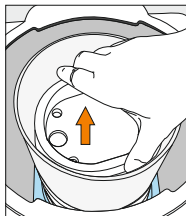
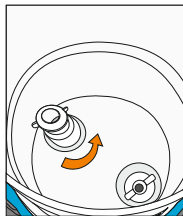
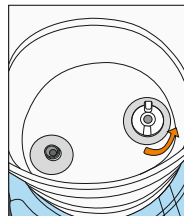

Figure 22
Figure 23
Figure 24
5. Remove the baffle cup by lifting straight out (Figure 22). Loosen & remove the baffle stem and wing nut by turning counter-clockwise (Figure 23 and Figure 24).